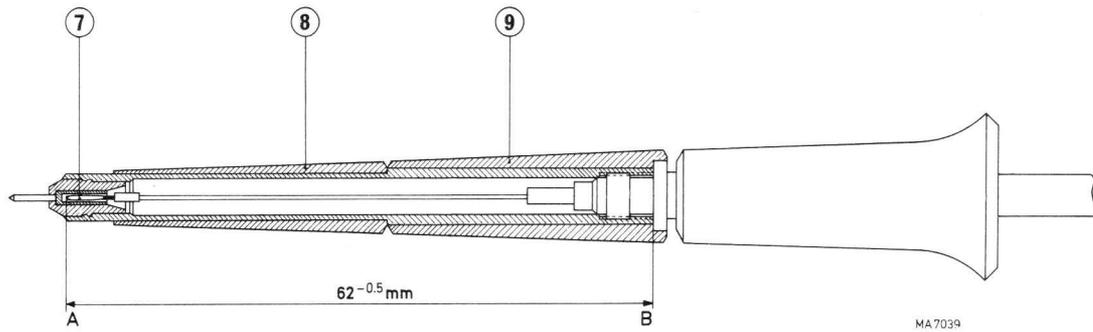

Fig. 3. Cross-section of the probe
2.1. DISMANTLING THE PROBE (Fig. 3)
2.2. ASSEMBLING THE PROBE (Fig. 3)